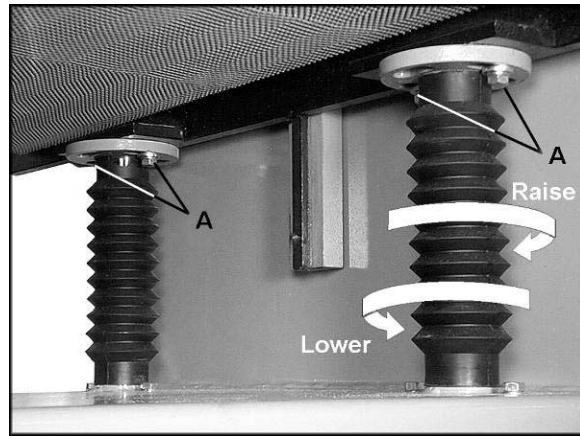

Figure 18
- At the area of the table that needs adjustment, loosen the two screws (A, Figure 18) on the bracket of the elevation screw, and rotate the bracket as needed. (The elevation screw is protected by the dust guard bellow.) Turn the elevating screw clockwise to lower the table in that area, counterclockwise to raise the table (see Figure 18).
- Tighten screws (A, Figure 18).